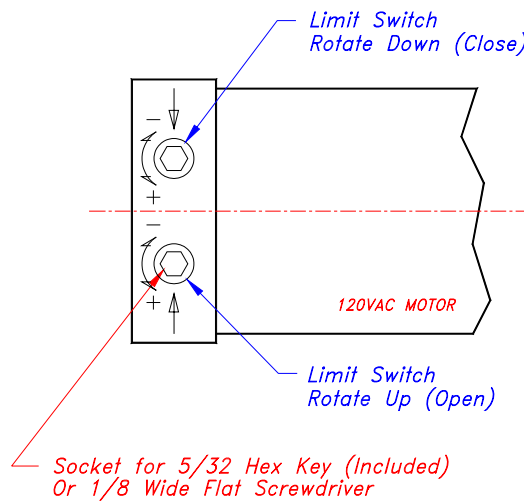

Figure 5
1. **To lower the closed limit of the Art Screen.** Send the Art Screen down to its closed position. Turn the Close limit socket **counter-clockwise** (Figure 5); the Art Screen will advance downward as each full turn is made. Stop at the desired position.